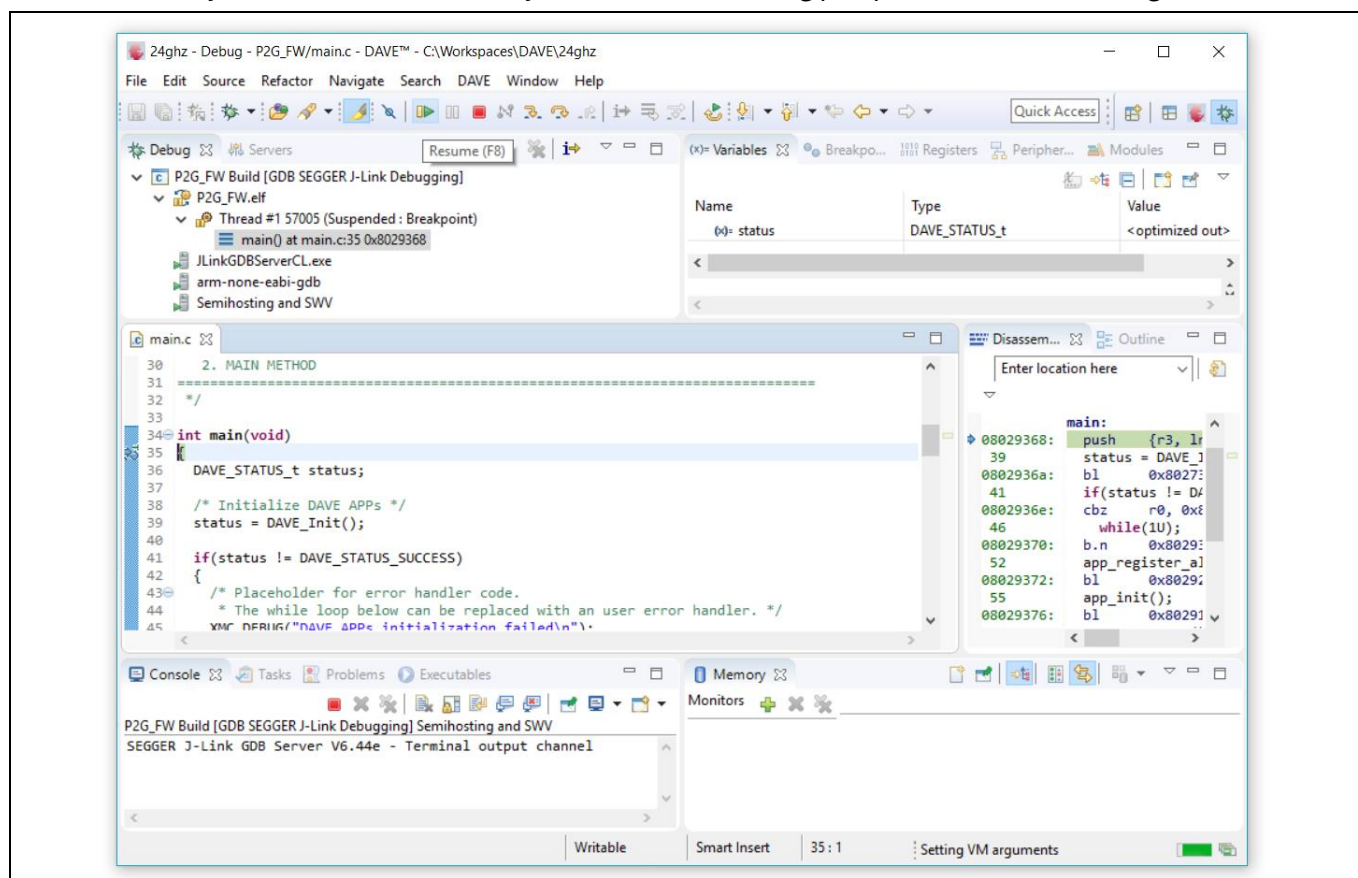

Figure 31 DAVE™ debug perspective
- In this way, the Flashing process is started, the firmware image is loaded into the XMC™ microcontroller Flash memory and DAVE™ automatically switches to the debug perspective, as shown in Figure 31.